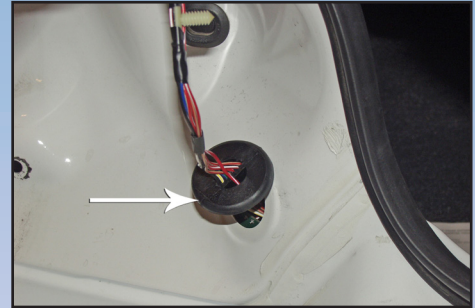
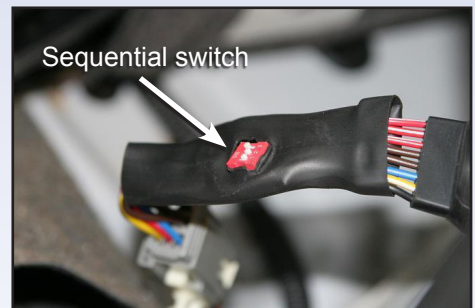

Figure 5
Figure 7
3. Remove the six 11mm nuts (three per side) holding taillight assembly to body (*figure 4*). Push the two harness grommets through hole to outside of body (*figure 5*). Gently remove taillight assemblies and place face down inside trunk, being careful to avoid scratches.
6. Push harnesses through holes in body where original harnesses passed through, and install grommets (*figure 5*). Rotate harnesses as necessary to put switch in an accesible position (*figure 7*). Install harness connectors into appropriate harness receptacles (*figure 3*) where original harnesses were removed. Reinstall the six 11mm nuts (three per side) securing tail lights to vehicle.